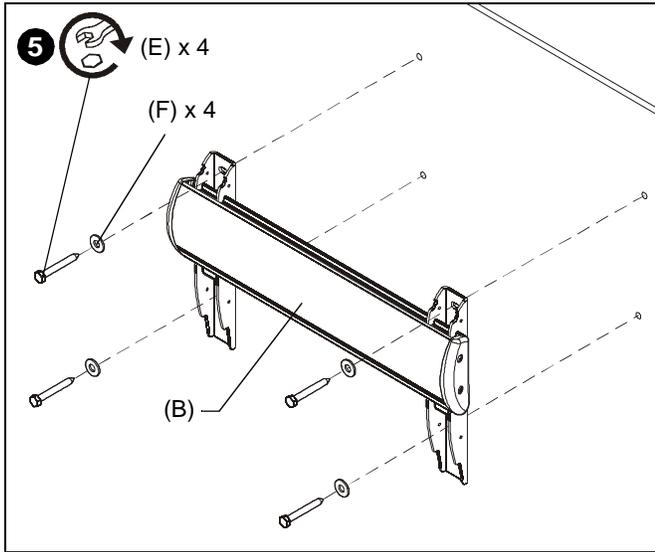

Figure 4
5. Install four 5/16 x 2-1/2" hex head lag screws (E) through four 5/16" washers (F), holes of mounting bracket and into drilled holes. (See Figure 4)